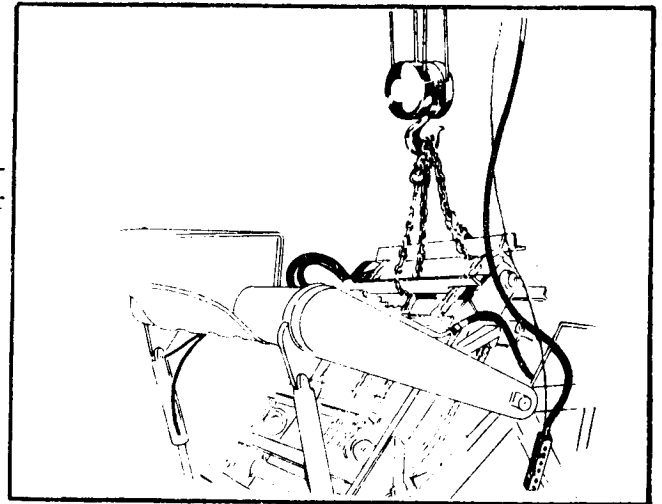

Fig. 1—Hoist on Chain & Drag Assembly
1. Support two drags as near the top of the elevator frame as possible. See Fig. 1.
2. Part the chain assembly at a master link as near as possible to the lowest drag supported by the hoist, as shown in Fig. 1. To part the chain, remove the cotter with a punch and use a hammer and drift to drive the pin from the chain. Repeat this procedure on the opposite side of the elevator.